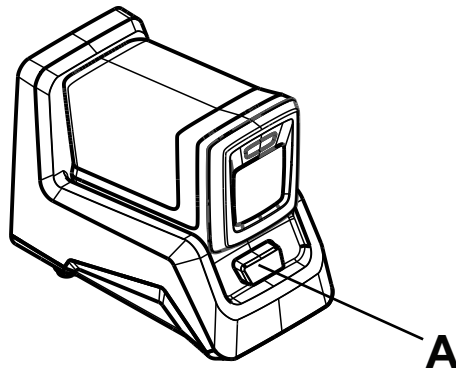

Figure 46 – Charging the battery
2. Press the battery release button (A) and slide the charged battery out of the charger (Figure 46).